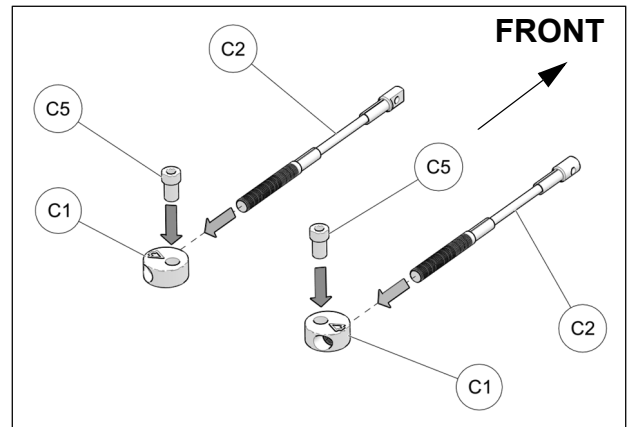

Fig. 22
11. Assemble steering limiter cables (C2), aluminum disks (C1) and step spacers (C5) together as shown on Fig. 22